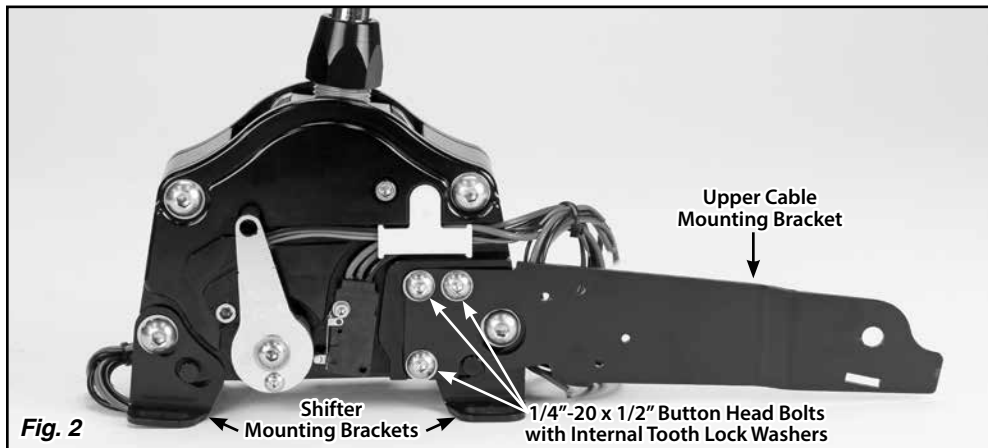

Fig. 2
**Step 2:** Install the upper cable mounting bracket onto the Lokar Shifter using a 5/32" Allen wrench and three 1/4"-20 x 1/2" button head bolts with internal tooth lock washers. **Fig. 2**